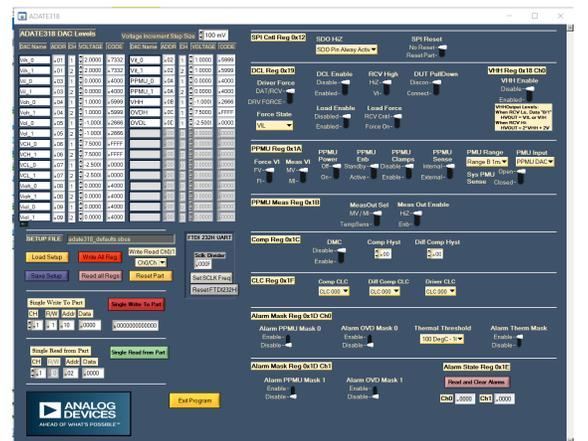
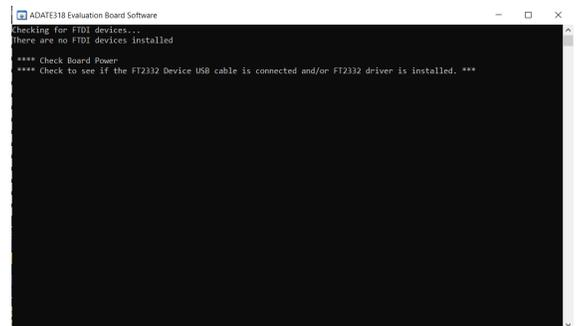

Figure 4. ADATE318 Main Window
Figure 5. Error Prompt Example
- a. When the **ADATE318 Evaluation Board Software** opens, the main window opens if there are no issues (see Figure 4). Otherwise, a command prompt indicating any error pops up. Figure 5 shows an example of an error prompt with four asterisks. Follow all the recommendations within the prompt window before attempting to start the software again.
2. When the search displays the **ADATE318 Evaluation Board Software**, select it. The main **ADATE318 Evaluation Board Software** window opens as shown in Figure 4. Note that the software loads the `adate318_default.sbus` file upon startup.